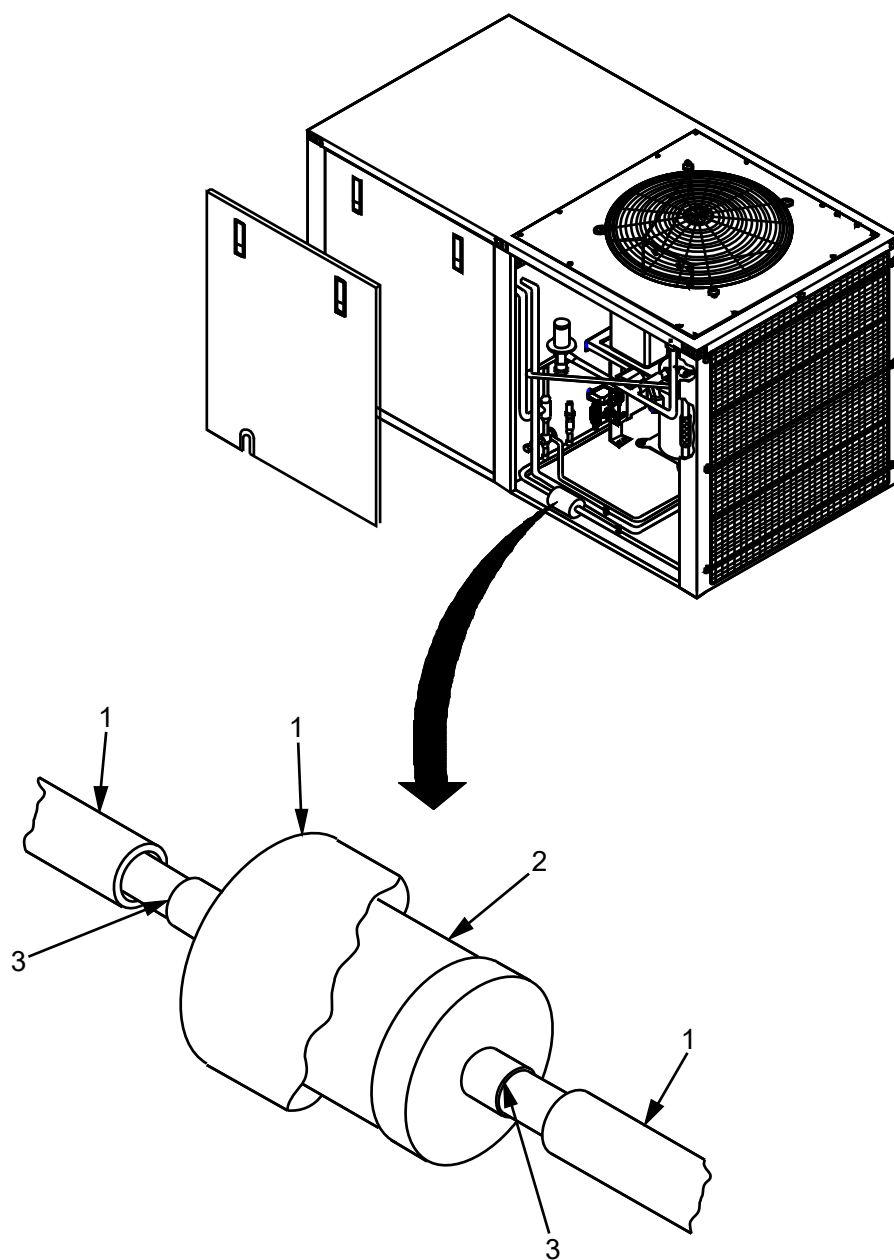

Figure 1. Filter/Drier Replace.
3. Remove insulation (Figure 1, Item 1) from filter/drier (Figure 1, Item 2) and surrounding pipes to safely allow brazing.
5. Debraze filter/drier (Figure 1, Item 2) at mounting joints (Figure 1, Item 3) as described in WP 0115 and remove filter/drier (Figure 1, Item 2).
1. Install filter/drier (Figure 1, Item 2) and braze mounting joints (Figure 1, Item 3) as described in WP 0115.
4. Install insulation (Figure 1, Item 1) onto filter/drier (Figure 1, Item 2) and surrounding pipes.